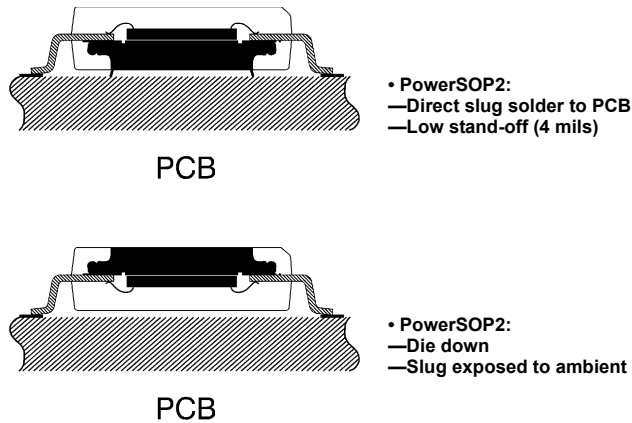

FIGURE 2. 28 PSOP 2 BOARD MOUNTING OPTIONS
The slug provides low thermal resistance from the die to the external heatsink and also through the leads. At the same time, it provides a large thermal capacitance to absorb power peaks during switching. Thermal resistance (θ_{JC} —junction to case) for a typical 100 x 100 mil die is 45°C/W. The electrical lead resistance is in the range (5) mmhos; inductance is typically (2nH) per lead and capacitance is about 1pF. The package comes in two different lead stand-offs: normal stand-off is 9 mils and low stand-off is 2 mils. The two board mounting options are shown in Figure 2.